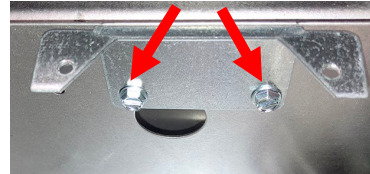

Figure 22
- Remove the two (2) screws attaching the speaker bracket to the component box (see Figure 22).